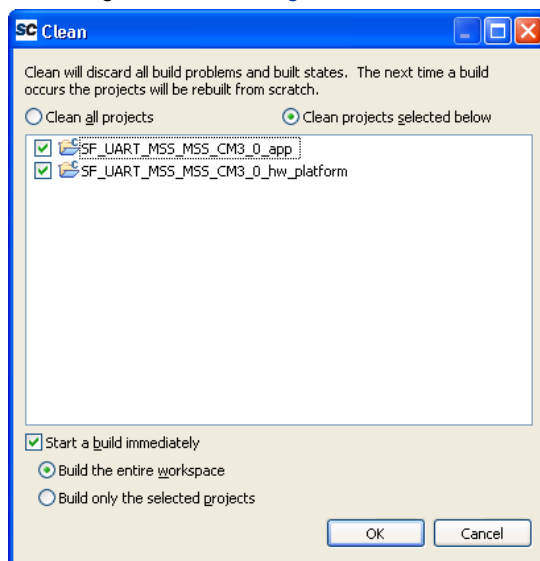

Figure 35 · Building a Clean Project
10. To build the project, select the project name in the **Project Explorer** tab and click **Project > Clean Project**. Enter the settings as shown in Figure 35 · and click **OK**.